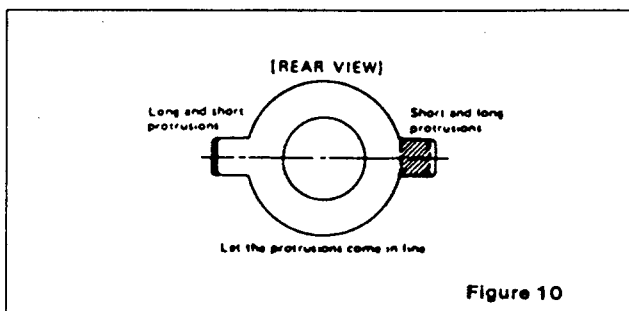

Figure 10
4. Bring the long and short purity tab protrusions in line with each other to obtain near-zero magnetic field (Fig. 10). (In some cases, bring the flat and indented tabs together to obtain zero field). Protrusions can then be vertical, horizontal or at any convenient angle to start.